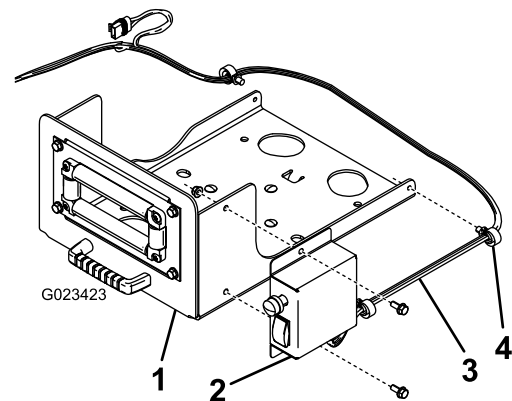

Figure 6
5. Mount the switch box to the swivel plate using 2 bolts (5/16 inch) and 2 flange nuts (5/16 inch) as shown in Figure 6.
6. Secure the wiring harness to the sides of the swivel plate using the existing clips (Figure 6).